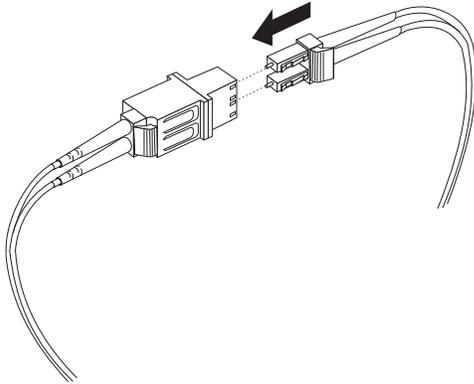

Figure 31. Connecting an LC-LC cable into the LC-SC cable adapter
4. Carefully insert the other end of the LC-LC cable into the LC connector end of the LC-SC cable adapter as shown in Figure 31 on page 36. Push in the connector until it clicks into place.